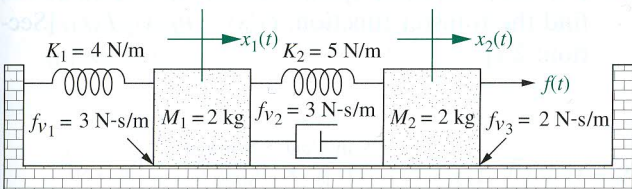

FIGURE P2.12
26. For the system of Figure P2.12 find the transfer function,  $G(s) = X_1(s)/F(s)$ . [Section: 2.5]